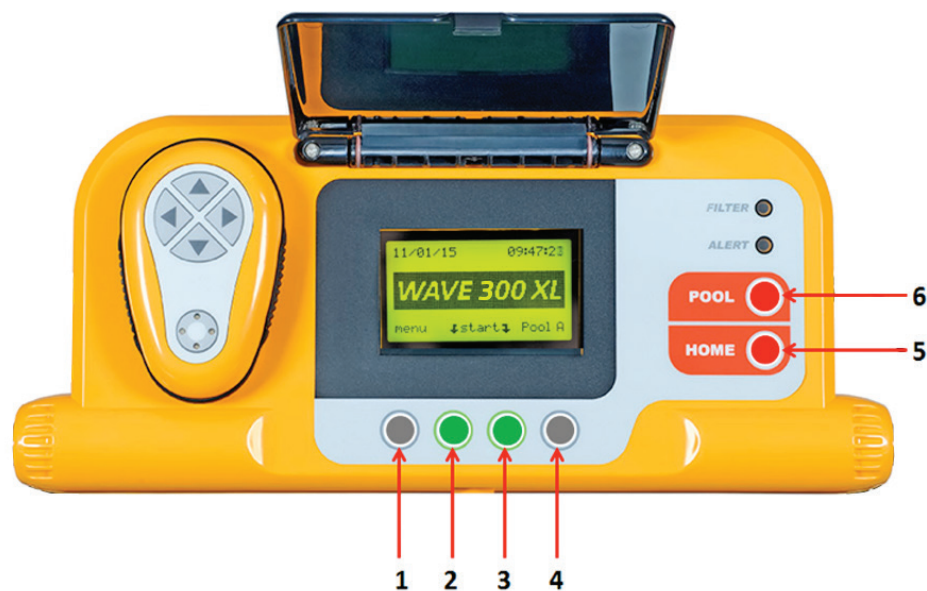

Figure 4: MMI Console
- In this user manual, the term **Press Start** means to simultaneously press both green buttons on the MMI console (marked **2** and **3** in the Figure 4).
- The MMI is equipped with a screensaver that is displayed after 5 minutes of idle time. Press the **POOL** and **HOME** buttons (marked **5** and **6** in Figure 4) to exit the screensaver mode.
- Some options in the MMI (pool profile setup) menus are blocked with a code to prevent changing the setting accidentally. The code sequence for unblocking these options is: **3**, **2**, and **1** (Figure 4).
- **Alert:** This Alert LED lights up to indicate an error that stops the robot from functioning. In such cases, inspect the robot to locate the problem and if it can be fixed, start the robot again. If the error repeats itself, then details of the specific error are displayed on the MMI screen (Figure 4). If this occurs, contact your Maytronics dealer immediately.
2. Wait for the Wave 300 XL screens to appear. Press **Start** (press both green buttons, marked **2** and **3**, in Figure 4, simultaneously). The cleaning session begins.
3. To stop the cleaning session at any time, press the right grey button, marked **4**, in Figure 4.